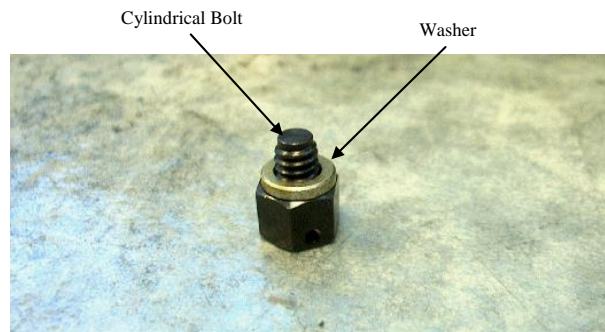

Figure 4: Securing Screw and Washer
- 3.2.4 Assemble the securing screws and washers as shown in Figure 4 below.